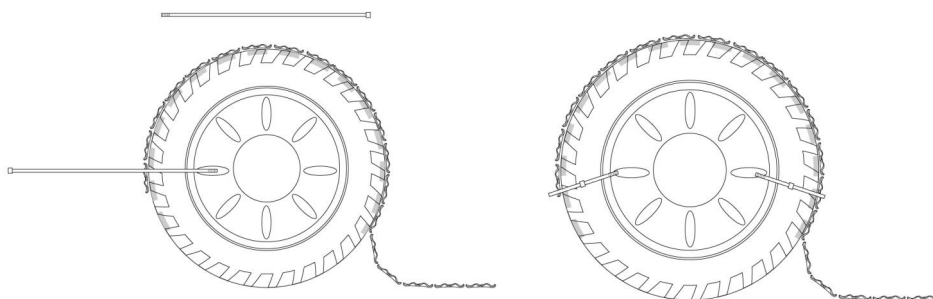

Fig. 3
3. Using the ties (H) provided, fasten the first plate and the last plate in contact with the tyre in place leaving the rest of the chain free (Fig. 3).